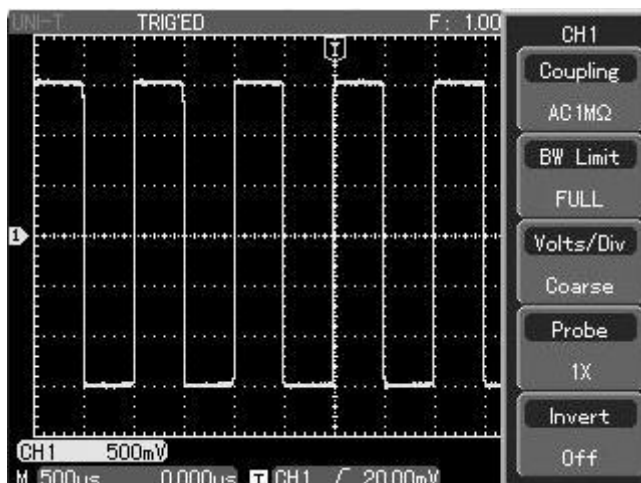

Figure 1-7 Probe compensation signal
③ Connect the probe tip and ground clamp to the corresponding probe compensation signal terminals. Press [AUTO] and you will see a square wave in the display (about 3V peak-to-peak at 1kHz) in a few seconds, as shown in Figure 1-7.
④ Repeat these steps to check CH2. Press the [OFF] function button to close CH1, then press [CH2] function button to open CH2. Repeat steps 2 and 3.